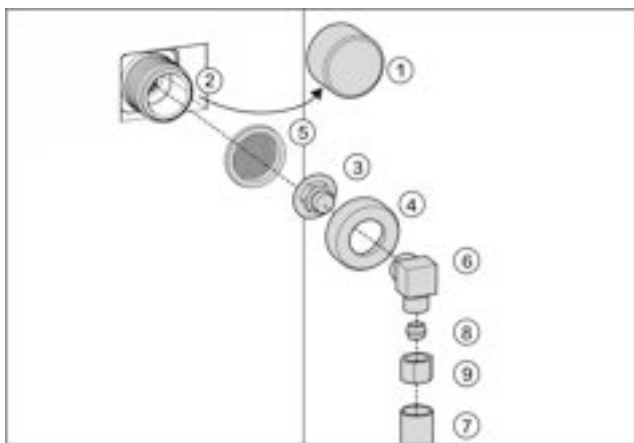

Fig. 24
- ▶ Remove cap *Fig. 24 (1)* from solenoid valve *Fig. 24 (2)*.
- ▶ Insert coupler *Fig. 24 (3)* into union nut *Fig. 24 (4)*.
- ▶ Insert the filter *Fig. 24 (5)* with the recess pointing down towards the coupler *Fig. 24 (3)*.
- ▶ Screw the union nut *Fig. 24 (4)* by hand onto the thread of the solenoid valve *Fig. 24 (2)* until it is firmly in place.
- ▶ Screw on angle piece *Fig. 24 (6)*.
- ▶ Connect the water pipe *Fig. 24 (7)* (e. g. 1/4" OD copper pipe) with the clamp ring *Fig. 24 (8)* and nut *Fig. 24 (9)* to the elbow connector *Fig. 24 (6)*.
- ▶ If necessary: Fasten the water pipe *Fig. 24 (7)* to the housing with the guide clip.
- ▶ Put angle piece *Fig. 24 (6)* to one side.
- ▶ Connect the water pipe *Fig. 24 (7)* (e. g. 1/4" OD copper pipe) with the clamp ring *Fig. 24 (8)* and nut *Fig. 24 (9)* to the coupler *Fig. 24 (3)*.